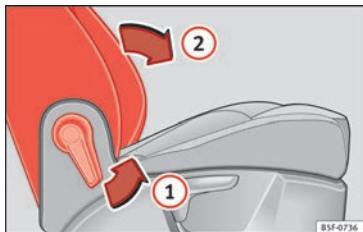

Fig. 148 Front passenger seat: lever for folding down the backrest.
- Pull lever ① » Fig. 148 and push the seat backrest ② until the backrest is horizontal.